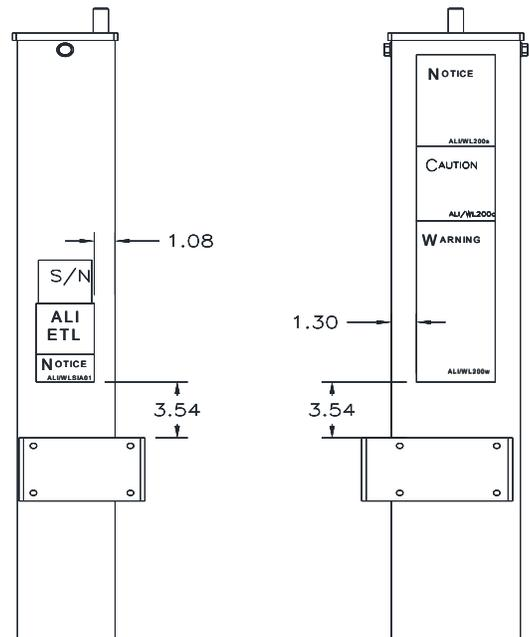

Fig 23 – Power Unit Decal
- 48) Place the Caution, Warning and Safety Instructions decals seen on page 4, on the power column as shown, **Fig 23**.